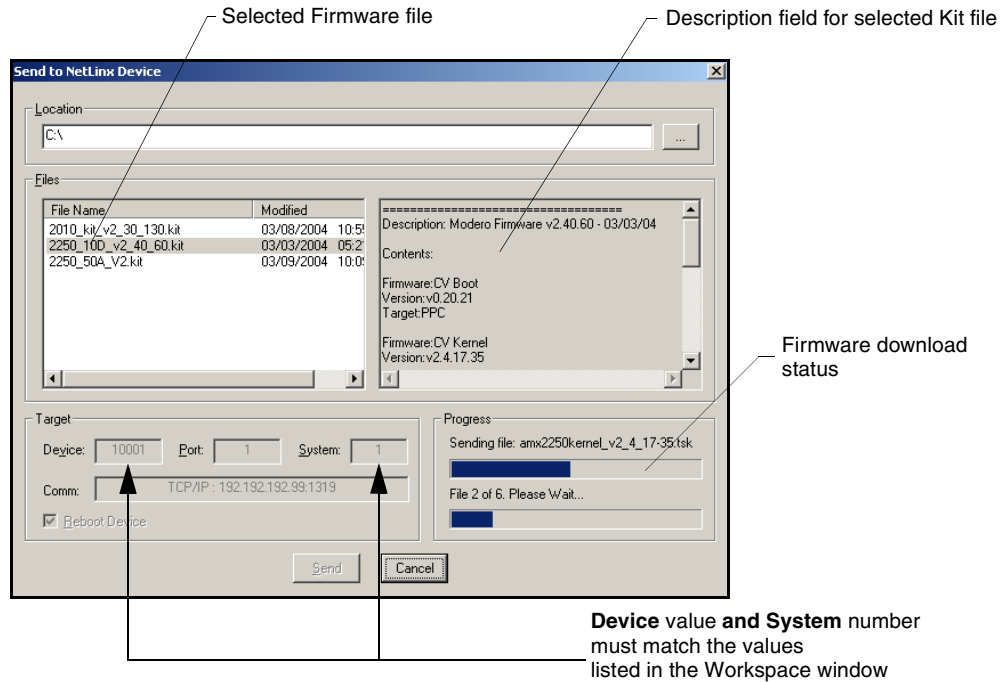

FIG. 77 Send to NetLinx Device dialog (showing Modero firmware update via IP)
- From within Studio, select **Tools > Firmware Transfers > Send to NetLinx Device** from the Main menu to open the Send to NetLinx Device dialog (FIG. 77). Verify the panel's System and Device number values match those values listed within the System folder in the **OnLine Tree** tab of the Workspace window.
- Select the panel's Kit file from the **Files** section (FIG. 77).
- Click **Send** to begin the transfer. The file transfer progress is indicated on the bottom-right of the dialog (FIG. 77).